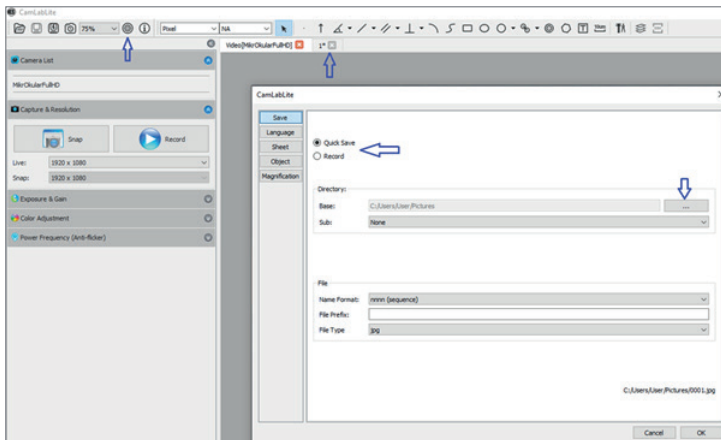

Figure 3: Exposure and sensitivity function. Auto exposure indicated by red arrow.
Images taken with the "Snapshot" function are stored as a tab above the live image (Fig. 3). There you can right-click the tab to save the image separately and specify the file path for each shot separately.
**The third menu item** is the option to set the **"Exposure & Sensitivity"**. Here you can decide whether you want to regulate the exposure time automatically or manually. For automatic exposure of your sample, set the check mark to the left of "Auto Exposure" (Fig. 3). The program automatically determines the optimal exposure and gain. You can also make the settings manually. To do this, remove the checkmark from "Auto Exposure". Now you can use the sliders to manually adjust the exposure time and gain. Please note that depending on the camera model and other settings, only certain values can be selected.